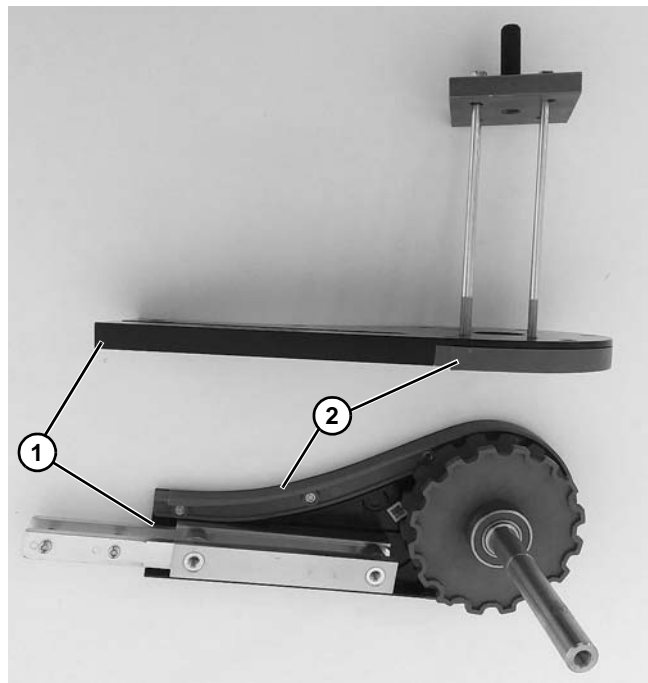

Figure 130
7. Remove the head plates (**Figure 130, item 1**) from the drive tail.